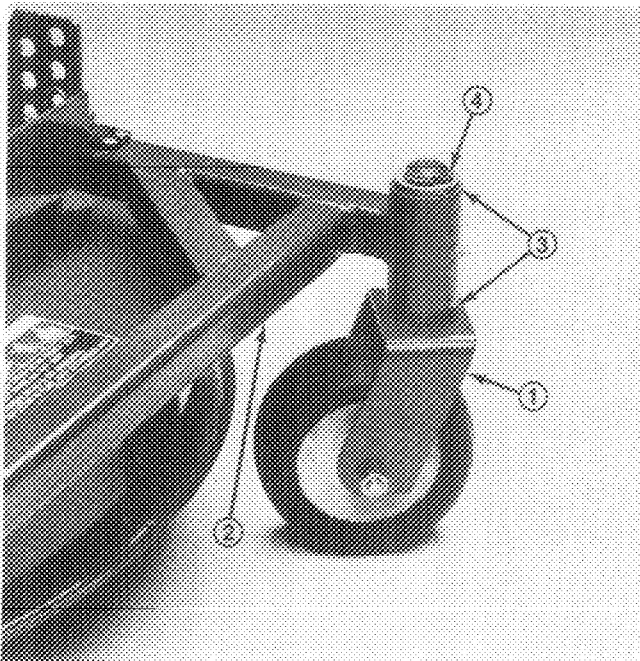

Figure 1
1. Place two thrust washers on each castor wheel shaft (Fig. 1).
2. Insert shafts into carrier frame. Install one or more thrust washer and secure with klip ring (Fig. 1).